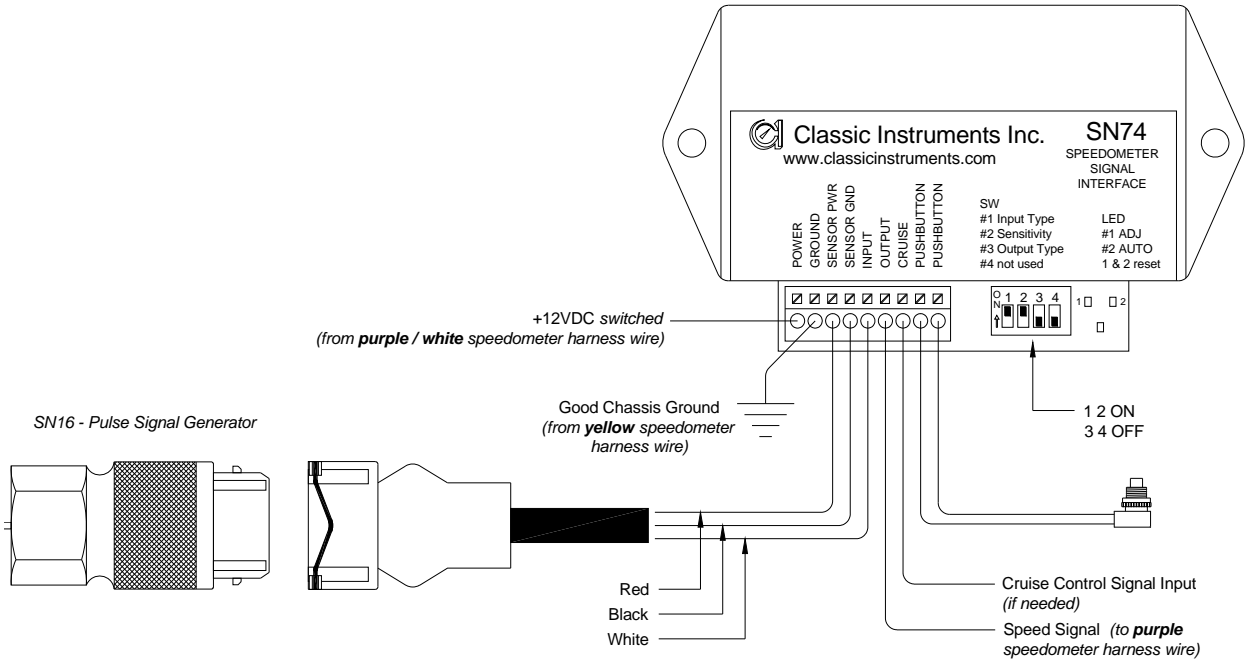

Figure 2: SN16 Speed Signal
- b. Black wire of a SN16 (if SN16 is being used). (*see figure 2*)
- b. White wire of a SN16 (if SN16 is being used). (*see figure 2*)
- 9) Connect the red wire of a SN16 (if SN16 is being used) to the "SENSOR PWR" position of the SN74 speedometer signal interface box. (*see figure 2*)